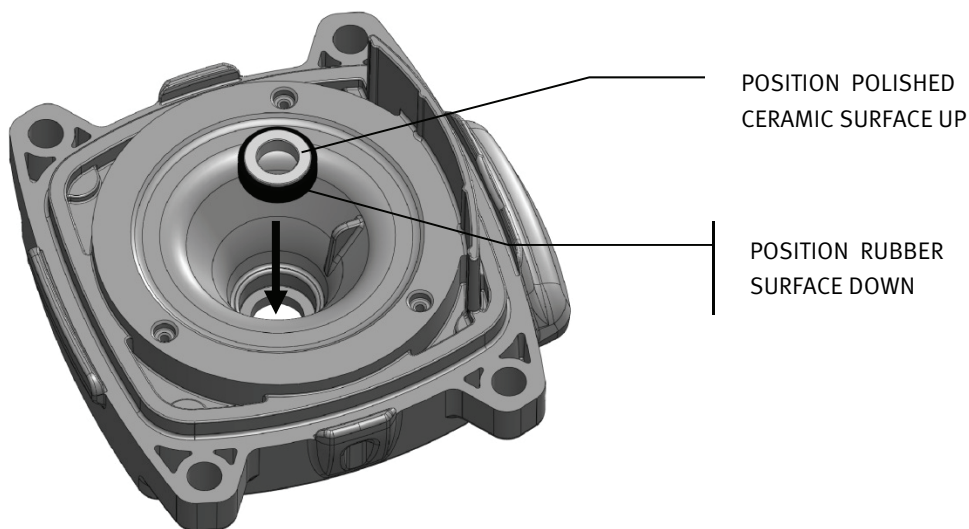

Fig 7.4.1
9. Assemble the motor to the seal plate (item #13) with the four (4) 3/8" bolts (item #14). Torque bolts to 100 in-lbs.
11. Press the spring seal assembly (item #12) onto the motor shaft – black polished surface facing toward the polished surface of the ceramic seat. See Fig 7.4.1